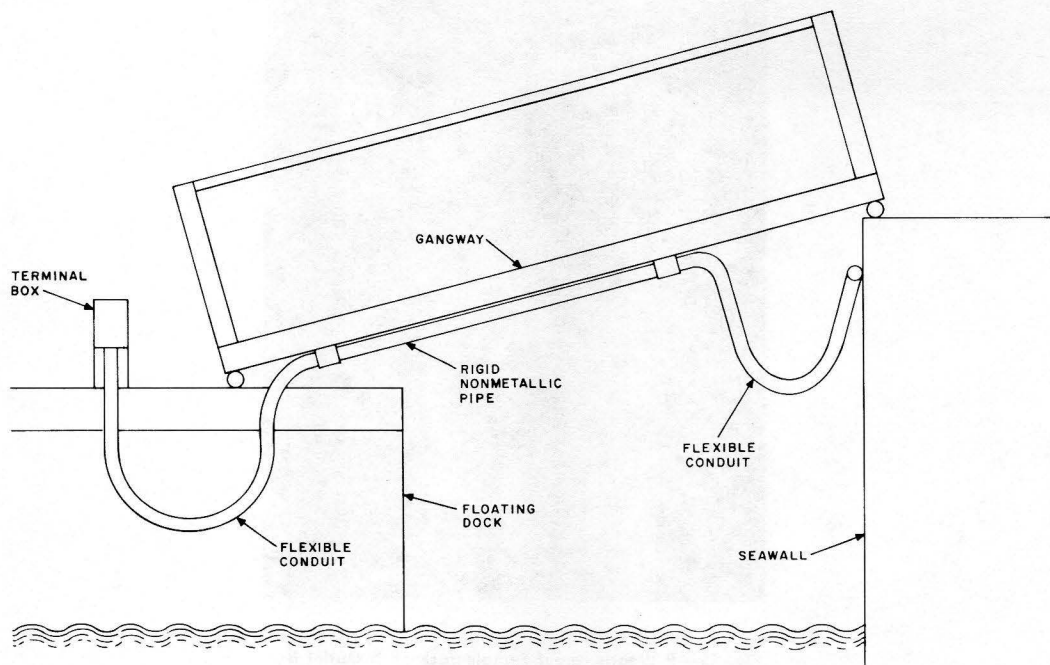

Fig. 26—Typical Shore to Dock Installation
3.13 If cable and terminals are not provided from the shore to the docks, wiring should be attached to the gangway. A typical method for floating docks is shown in Fig. 26. Rigid nonmetallic pipe should be fastened to the gangway. Flexible metal conduit should be used at the shore and dock ends to allow for motion due to rise and fall of docks. Where the docks are rigid, no flexible metal conduit is required.